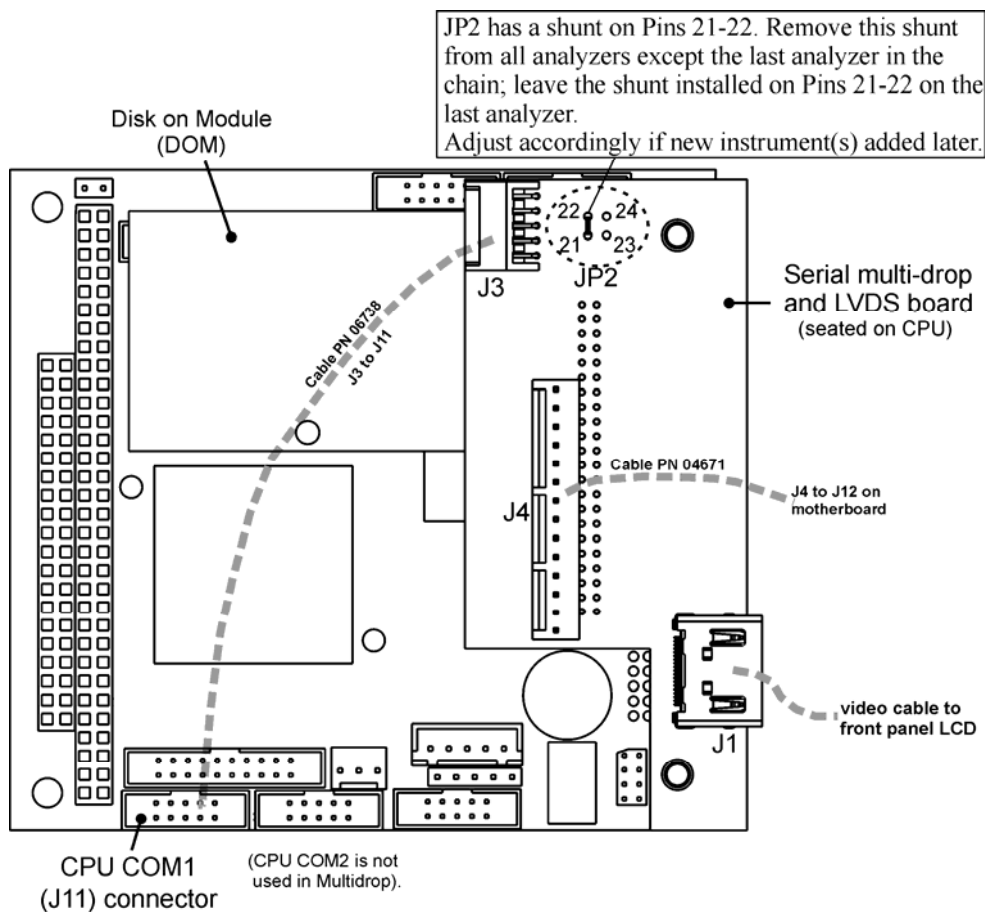

Figure 3-15: Jumper and Cables for Multidrop Mode
In each instrument with the Multidrop option there is a shunt jumpering two pins on the serial Multidrop and LVDS printed circuit assembly (PCA), as shown in Figure 3-15. This shunt must be removed from all instruments except that designated as last in the multidrop chain, which must remain terminated. This requires powering off and opening each instrument and making the following adjustments:
3. Check that the following cable connections are made in *all* instruments (again refer to Figure 3-15):